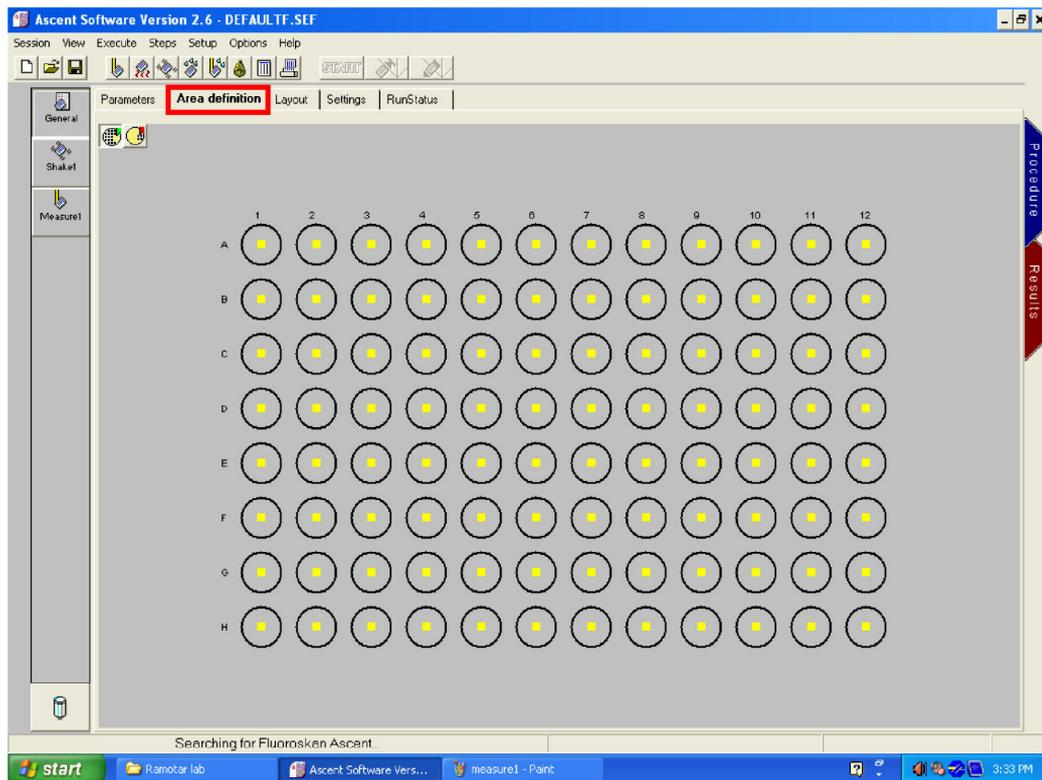

Figure 27. Area setting
11. Click on 'area definition' tab and select the wells to read by dragging the mouse over them (Figure 27).